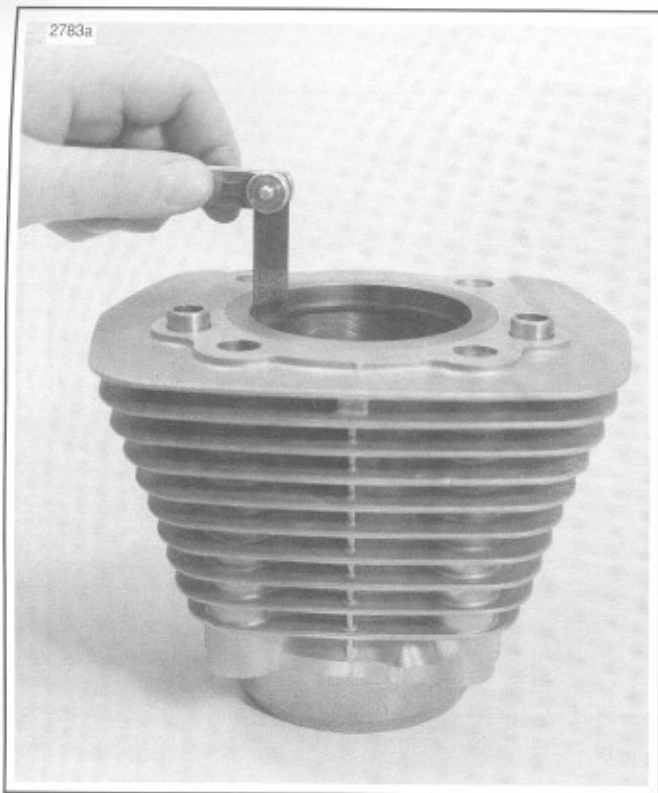

Figure 3-31. Measuring Ring End Gap
1. See Figure 3-31. Place piston in cylinder about 1/2 in. (13 mm) from top. Set ring to be checked squarely against piston as shown. Check end gap with thickness gauge. See SPECIFICATIONS for tolerance.